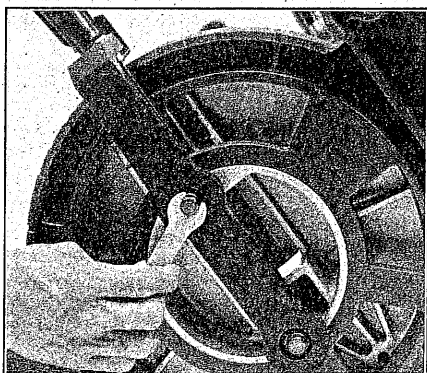

Fig. 14
3. If the edges of the square and the slot are not parallel, use the hex key provided to loosen the two socket head screws located on the underside of the table as shown in Figure 14. Shift the table left or right until the square and slot are aligned.